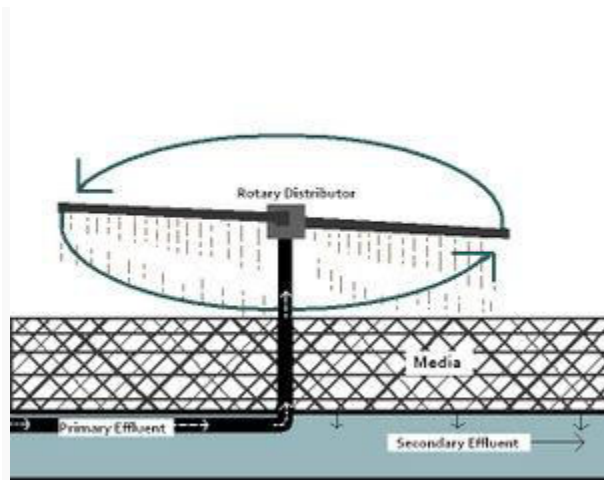

Figure 2: Trickling filter
**Process:** When primary effluent is transported to a trickling filter system the wastewater is dispensed upon a bed of media, such as rocks, stones, plastics, or salts. The most modern trickling filters use a type of rockwool. The effluent flows through the material at slow enough rates to allow microbial growth on the surface of the media (and within the fibres of the media, in the rockwool types) creating a layer of film. The spacing of the media allows air to circulate throughout the trickling system. Once microbial growth takes place additional wastewater flow has contact with microorganisms; this contact ensures that the organic matter in the primary treatment effluent is broken down. The biofilm that falls off the media flows through the bed of material and will be transported to the secondary settling tank to remove excess microorganisms. The secondary effluent that settles will either enter a digester or re-enter the trickling system. Secondary effluent that re-enters the trickling filter serves several purposes, the following are examples; 1. further treatment, 2. preventing the microorganism from drying out, and 3. diluting or supplementing primary effluent. Figure 2 provides a visual layout of a trickling filter system.